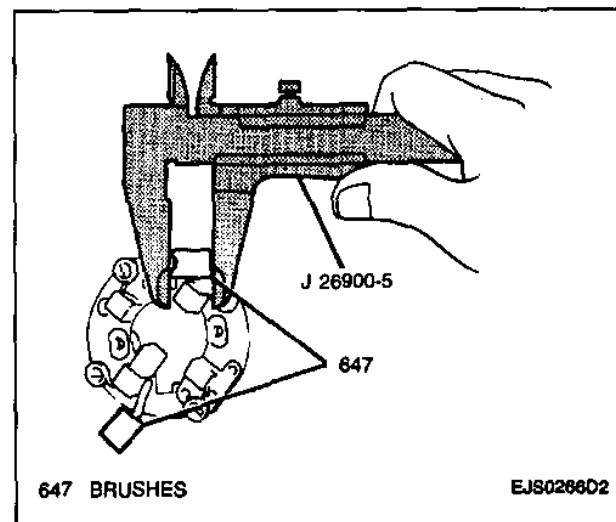

Figure 26—Measuring Brush Length
6. Brush length using the J 26900-5 (Figure 26). Standard brush length is 17.5 mm (0.67-inch). If brush length is less than 12.0 mm (0.47-inch), replace the brush.